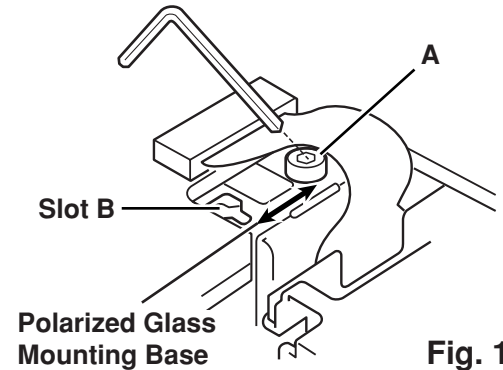

Fig. 1
2. Turn the polarized glass mounting base as shown in **Fig. 1** to obtain the darkest brightness on the screen.